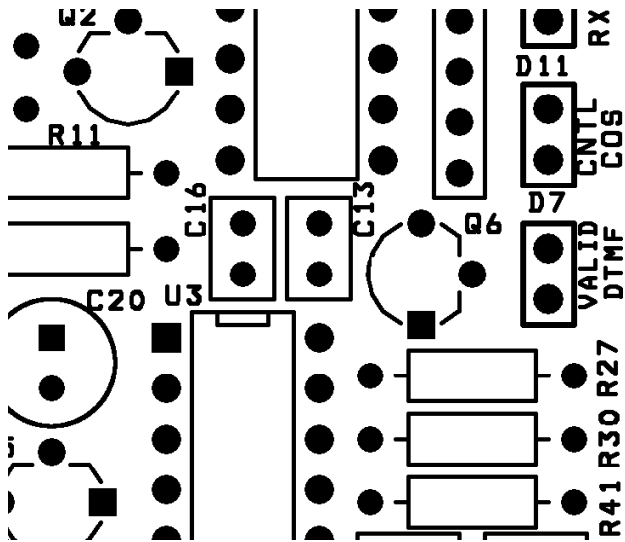

FIGURE 2
1. The Basic controller comes with de-emphasis on the repeater's receiver. If you do not want the audio to be de-emphasized you will need to clip out C13 (see figure 2). The Basic controller will then have "straight through audio". Remove C13 for speaker or flat audio; keep C13 for discriminator audio.